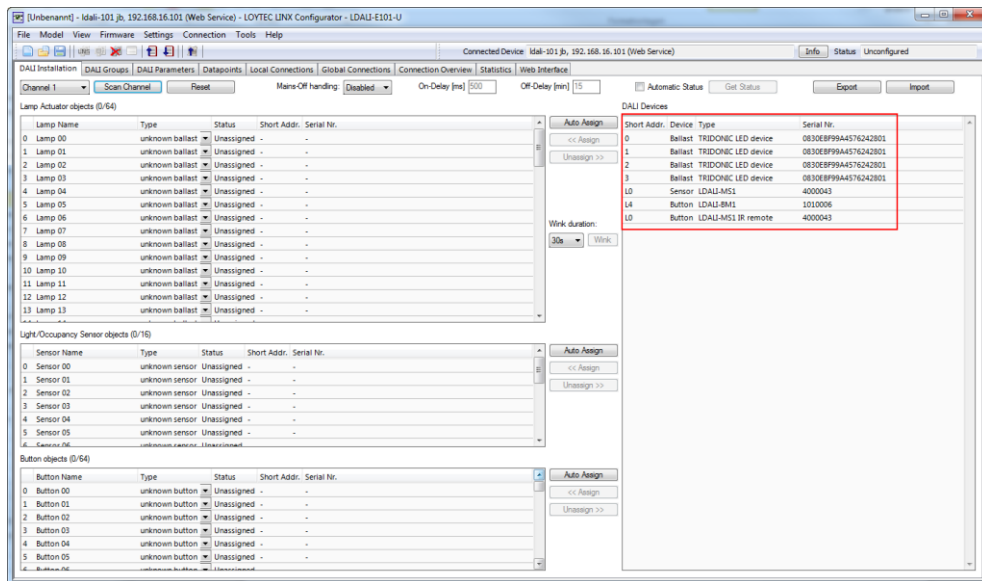

Figure 19: LINX Configurator software, detected DALI devices.
- The L-DALI device scans the selected channel and displays all detected devices as shown in Figure 19. In case an error occurs see the LOYTEC Device User Manual [1] for a description of the error codes and possible reasons.